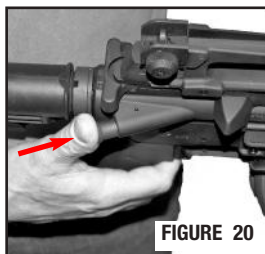

FIGURE 20
- If the bolt does not completely close, press the bolt assist (FIGURE 20). This should move the bolt completely forward. If your rifle is not equipped with a bolt assist or the bolt assist does not chamber a round, see the Clearing Misfires section of this manual.